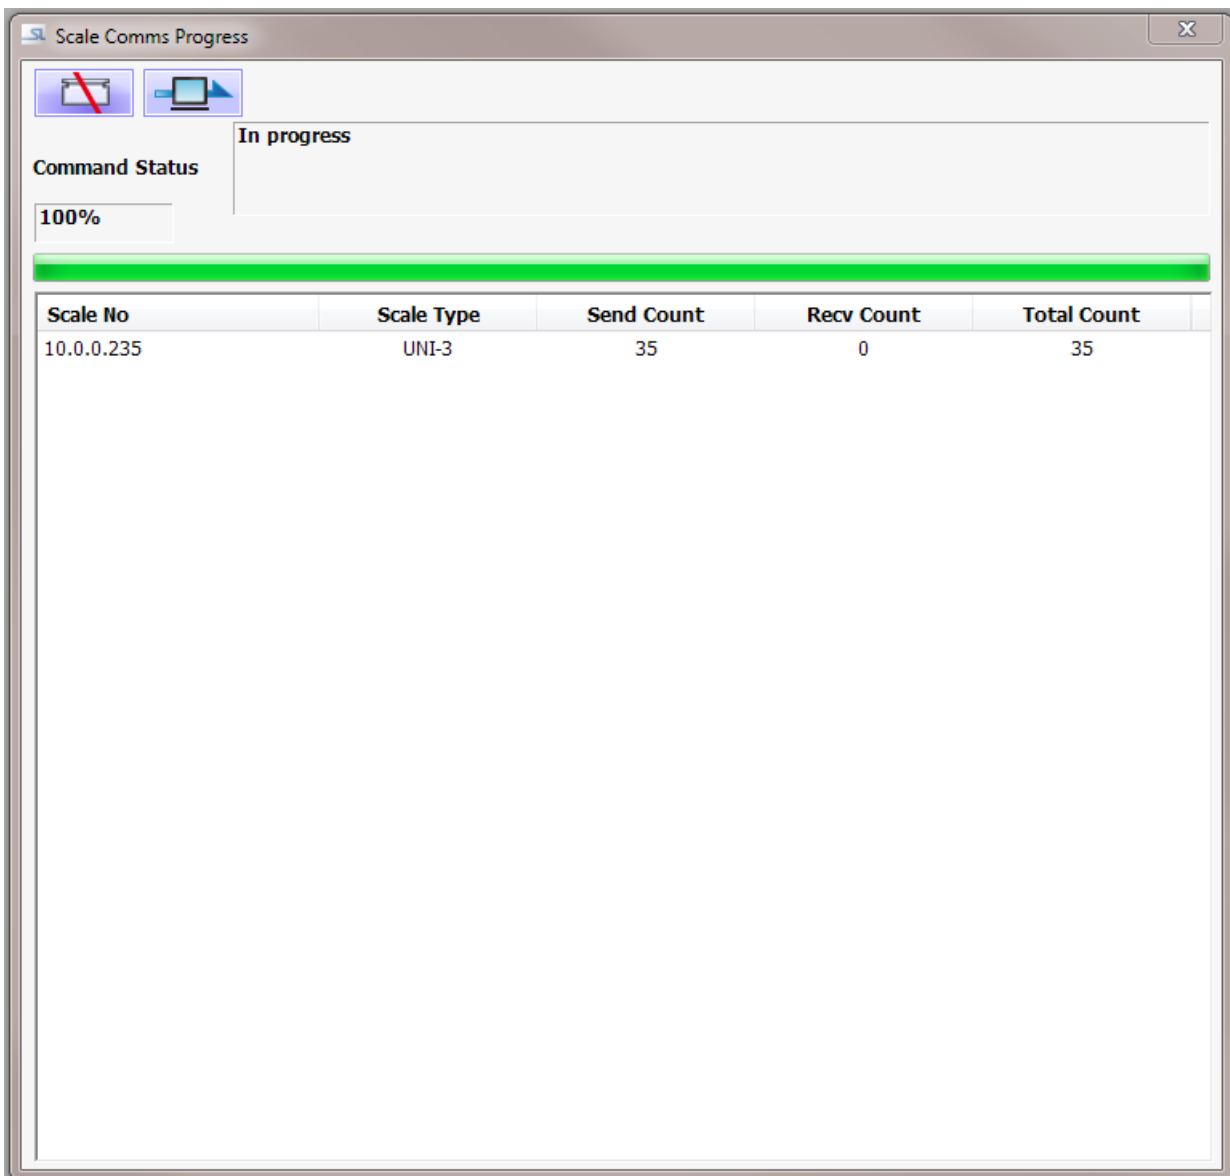

Figure 54-1
**Note:** The Scales Comms Progress window will open. Data will be updated to the scale and then the Scales Comms Progress window will close. See Figure 54-1.